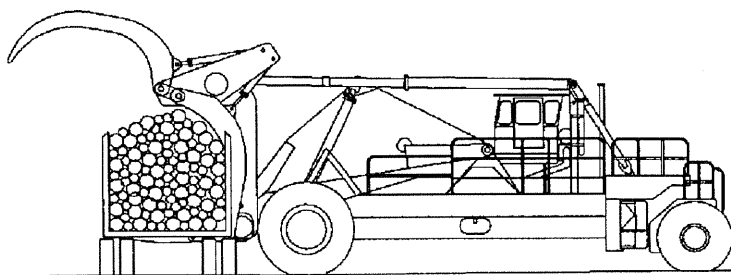

Fig 4-3
2. Move in until the back of the carriage is against the load. Partially clamp the load to prevent logs from rolling off. See Fig. 4-3.